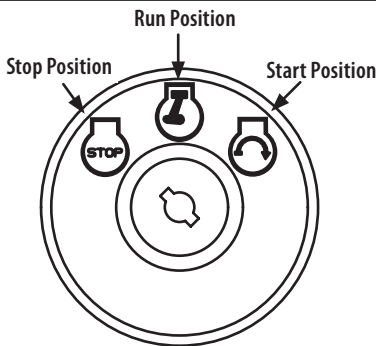

Figure 4
2. Move the gear shift lever into the neutral (N) position.
4. Turn the ignition key clockwise to the START position. After the engine starts, release the key. It will return to the RUN position (Figure 4).
4. Turn the ignition key clockwise to the RUN position (Figure 4).